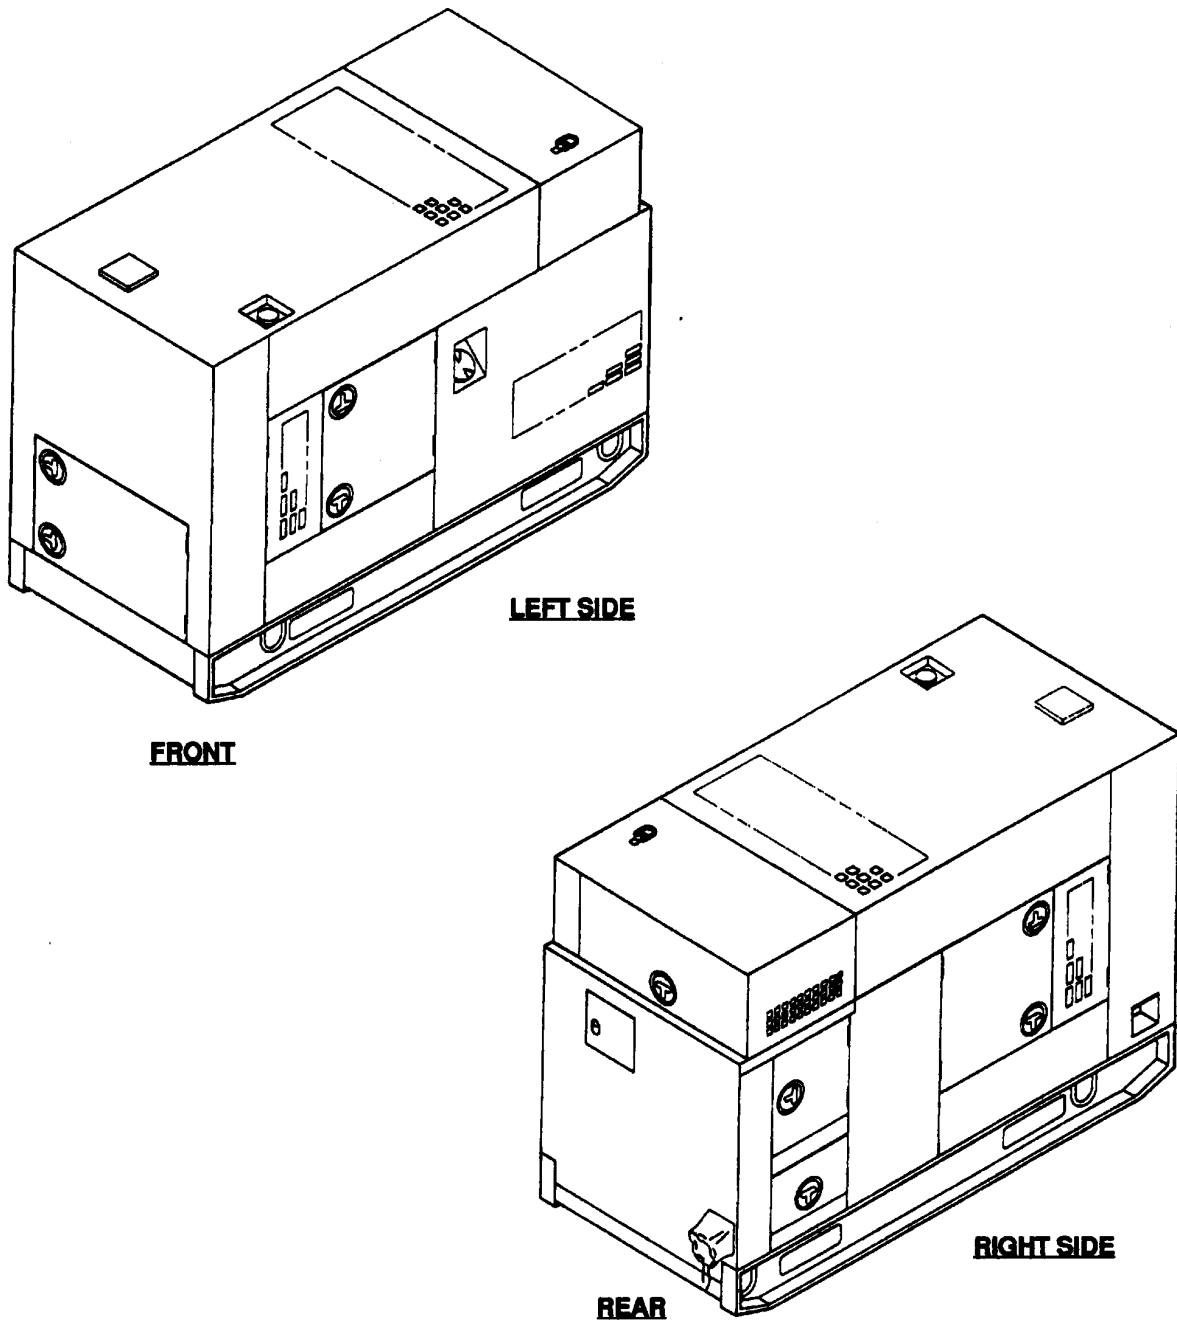

FIGURE 1-1. 30 kW TACTICAL QUIET GENERATOR SET
This manual contains Unit, Direct Support, and General Support maintenance instructions for the Tactical Quiet (TQ), 30 kW 50/60 and 400 Hz Generator Sets (Figure 1-1), herein referred to as generator sets. Included are descriptions of major components and their functions in relation to other components.
The generator set, models MEP-805B and MEP-815B (Figure 1-1) are fully enclosed, self-contained, skid-mounted, portable units. They are equipped with controls, instruments, and accessories necessary for operation as single units or in parallel with another unit of the same class and mode. The generator sets include a diesel engine, brushless generator, cooling system, excitation system, governing system, fuel system, 24 VDC starting system, DCS, and fault system.